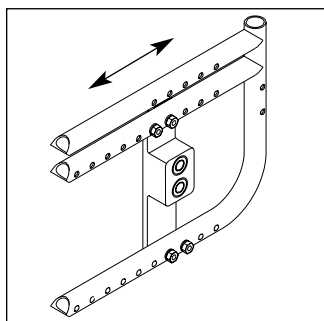

Fig. 11b Zippie GS
- b. You can adjust the center of balance by moving the rear axles forward or back in the axle plate. On the Zippie GS and the Quickie IRIS, the axle plate itself moves forward or back on the side frame to adjust the center of balance (Fig 11b).